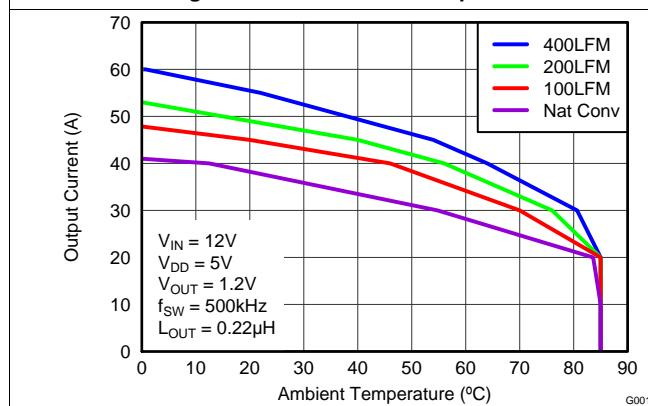
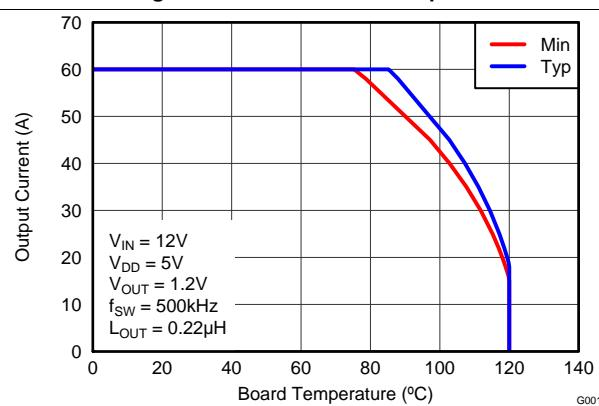

Figure 3. Safe Operating Area – PCB Horizontal Mount (1)
Figure 4. Typical Safe Operating Area (1)
The SOA curves in the CSD95372AQ5M datasheet give engineers guidance on the temperature boundaries within an operating system by incorporating the thermal resistance and system power loss. Figure 3 and Figure 4 outline the temperature and airflow conditions required for a given load current. The area under the curve dictates the safe operating area. All the curves are based on measurements made on a PCB design with dimensions of 4.0" (W) x 3.5" (L) x 0.062" (T) and 6 copper layers of 1 oz. copper thickness.